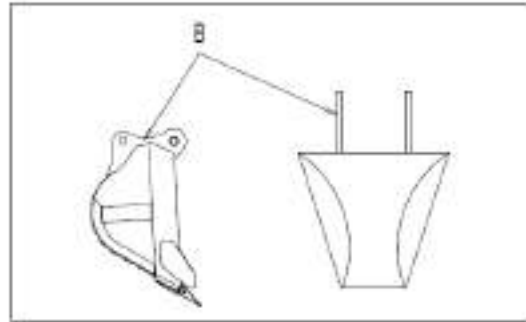

Figure 5-5 Digging steps for trapezoidal bucket (II)
2). Check the guide plate (B) at this position and ensure that it is installed next to the bucket pin, as shown in Figure 5-5. Keep the plate horizontal when digging.